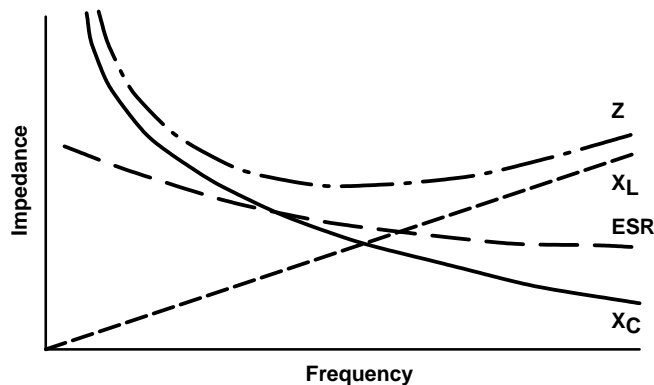

Figure 4. General Shape of an Impedance Curve for a Capacitor
Figure 4 shows the general shape of an impedance curve for a capacitor. A capacitor begins capacitive (X_C) then becomes resistive (ESR) near its resonance point and finally becomes inductive (X_L) at high frequencies. The impedance curve (Z) is the combination of each of these components.